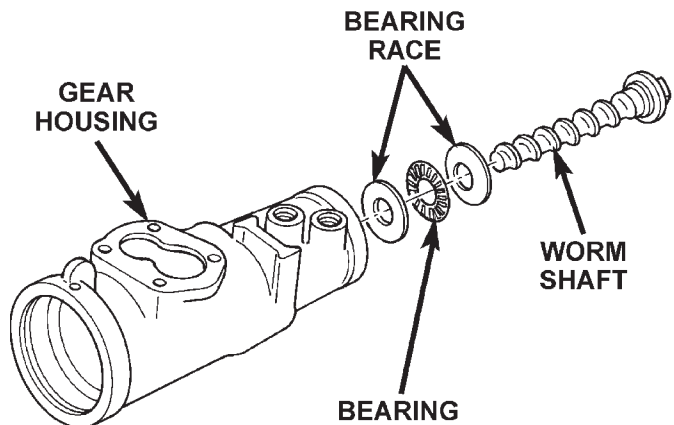
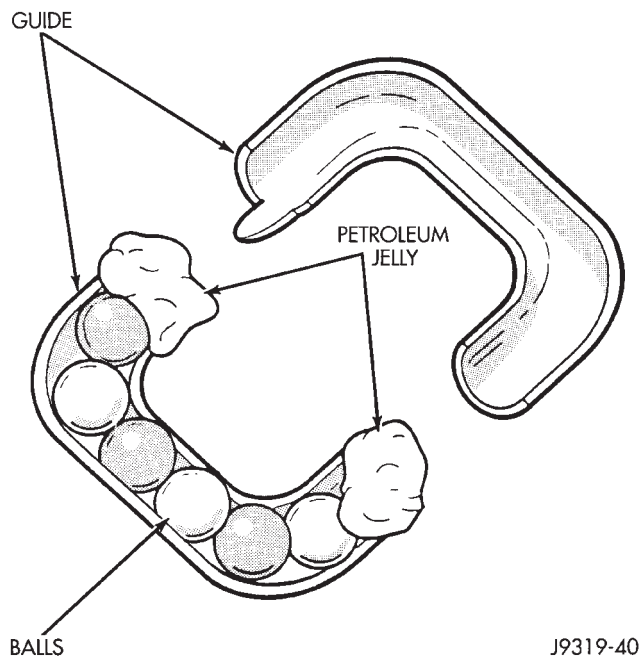

Fig. 21 Worm Shaft
Fig. 23 Balls in the Return Guide
(14) Remove the worm shaft from the housing (Fig. 21).
(5) Install remaining balls in guide using grease to hold the balls in place (Fig. 23).
(6) Install the guide onto rack piston and install clamp and clamp bolts. Tighten bolts to 4.8 N·m (43 in. lbs.).
(7) Insert Arbor C-4175 into bore of rack piston and hold tool tightly against worm shaft.
(8) Turn the worm shaft COUNTERCLOCKWISE while pushing on the arbor. This will force the rack piston onto the arbor and hold the rack piston balls in place.
(9) Install the races and thrust bearing on the worm shaft and install shaft in the housing (Fig. 21).